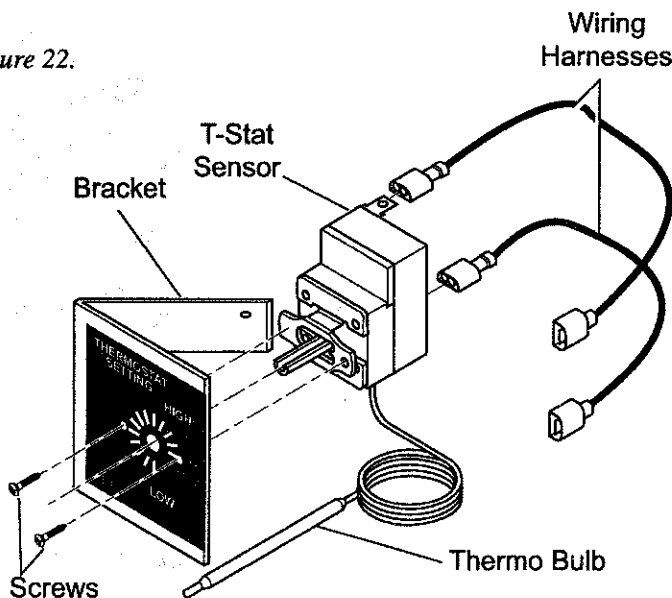

Figure 22 - Installing T-Stat Sensors and Wiring Harnesses
3. Using Phillips screwdriver, install t-stat sensor to bracket with two screws provided. See Figure 22. Make sure the thermo bulb wire is at the bottom of t-stat sensor.
4. Plug in wiring harnesses to back of t-stat sensor. See Figure 22.